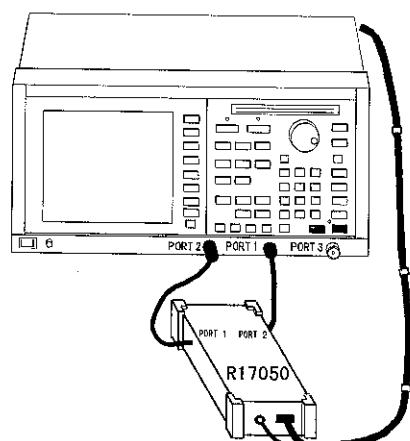

Figure 2-11 RF Port Connection
3. Connect cables between the RF ports of the instrument and PORT 1 and PORT 2 of the network analyzer (see Figure 2-11), using the cable that is actually used to measure the DUT.